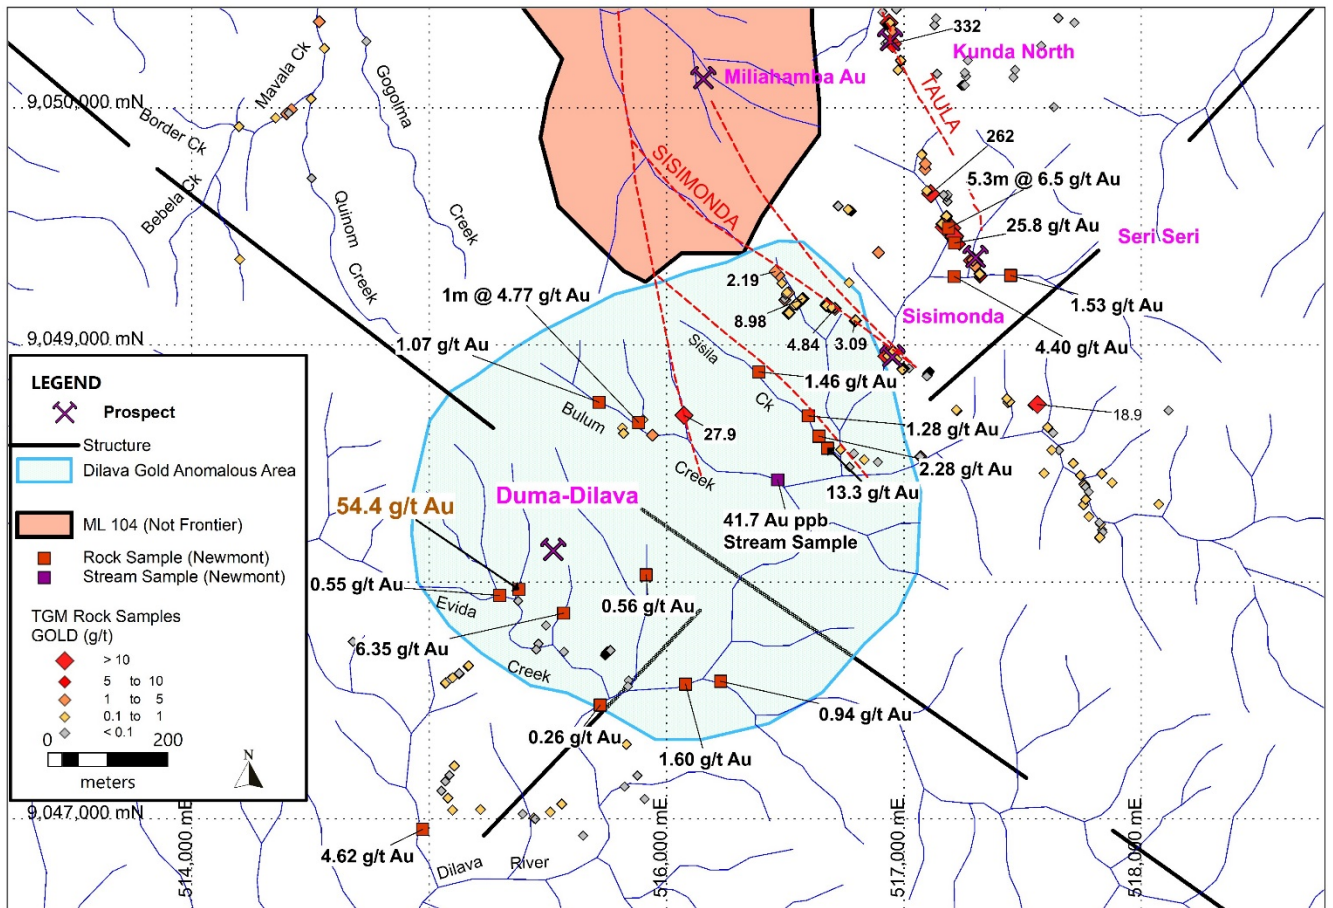

Figure 2: Dilava Prospect – Summary Map
Newmont completed creek and mapping, drainage sampling, float and outcrop rock chip sampling (Figure 2) however no soil sampling, trenching or drilling has been undertaken and further work is clearly justified as a high priority area for follow up.
Follow-up rock sampling by Tolukuma Gold Mines (TGM) returned values along Sisila Creek and the Sisimonda vein (Figure 2) of **27.9, 8.98, 4.84, 3.09** and **2.19 g/t Au** (Table 1).
- Of 12 BCL drainage samples collected from the Duma-Dilava area (excluding Taula and Seri Seri veins), ten contained >2.0 ppb Au and 4 contained greater than **10.0 ppb Au**; the best result was **41.7 ppb Au** (Figure 2);